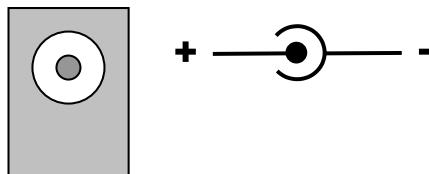

Figure 3: PSU supply connector
- On the same side there is the jack for power supply (AC-Adapter 230Vac-9Vdc – included) (see **Figure 3**)